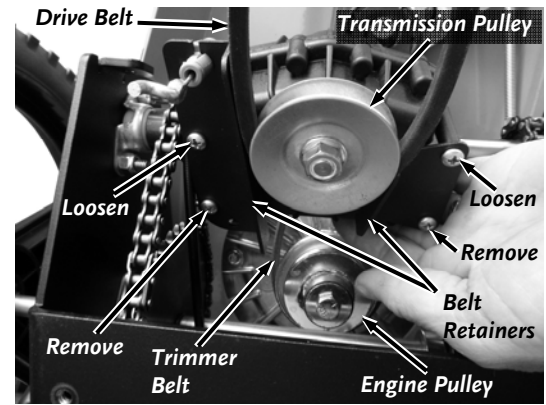

Figure 38
11. Continue to rotate the Transmission to gain access to the Belt retainers and Screws on the bottom of the Transmission (**Figure 38**).